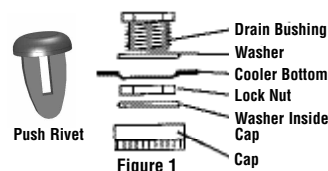

Figure 1
**Installing the drain bushing and plug.** If it is not already installed, refer to Figure 1 and install the drain bushing and cap through the hole provided in the bottom of the cooler.